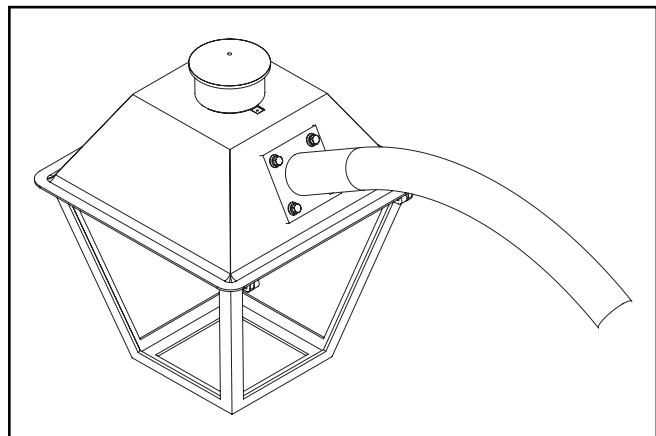

Figure 3.
4. To attach the scroll arm to the pole (Figure 3), please refer to scroll arm installation instructions (supplied by others).